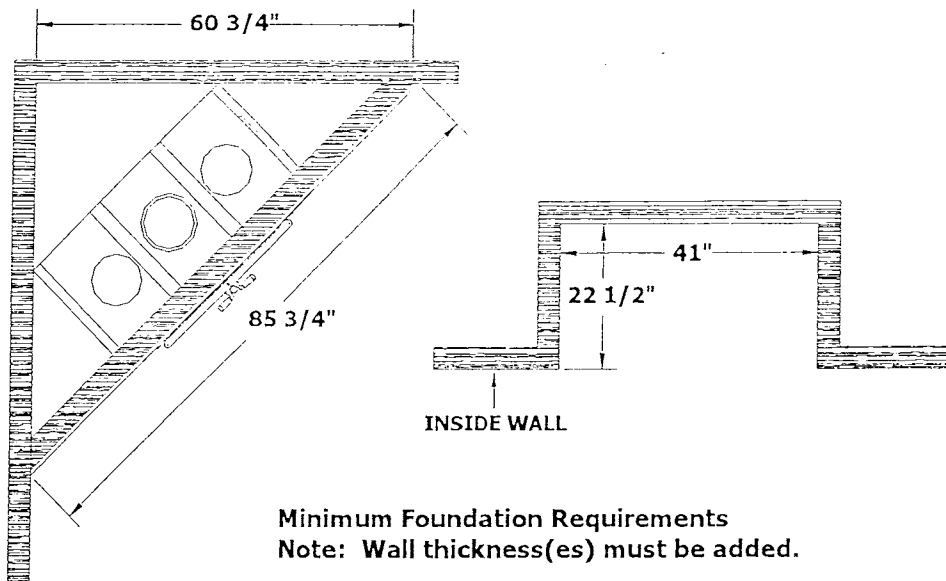

FIG. 2A
1. Place the unit in the desired location. This unit may be placed on any flat combustible or non-combustible floor surface without carpeting or linoleum. A minimum depth of 22-1/2", width of 41", and height of 49-1/2" plus the hearth height is required for installation. See Figure 2A.